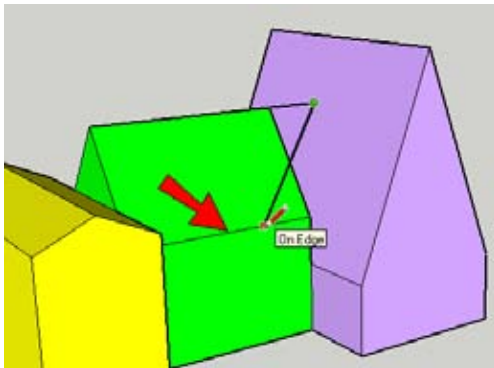

Figure 5-55
4. The next line will continue from the previous line you created. Hover over the edge indicated in Figure 5-55.